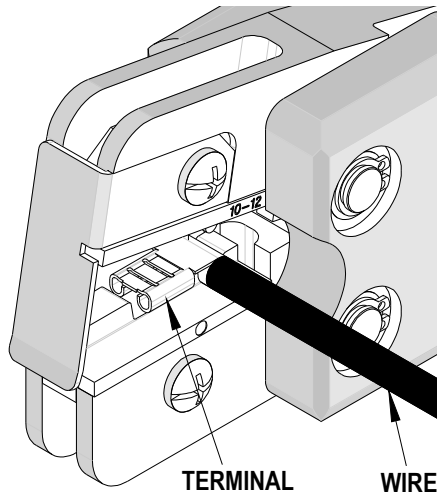

Figure 2
3. Insert the properly stripped wire into the terminal barrel. See Figure 2.